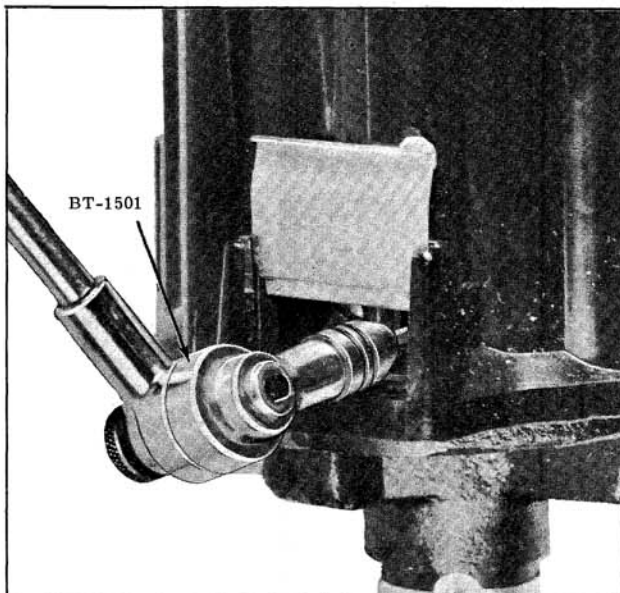

Fig. 13-62 Adjusting Dwell Angle
4. With the engine running at idle speed, insert Dwell Adjusting Tool BT-1501 into the head of the adjusting screw as shown in Fig. 13-62 and adjust dwell angle to 30°.